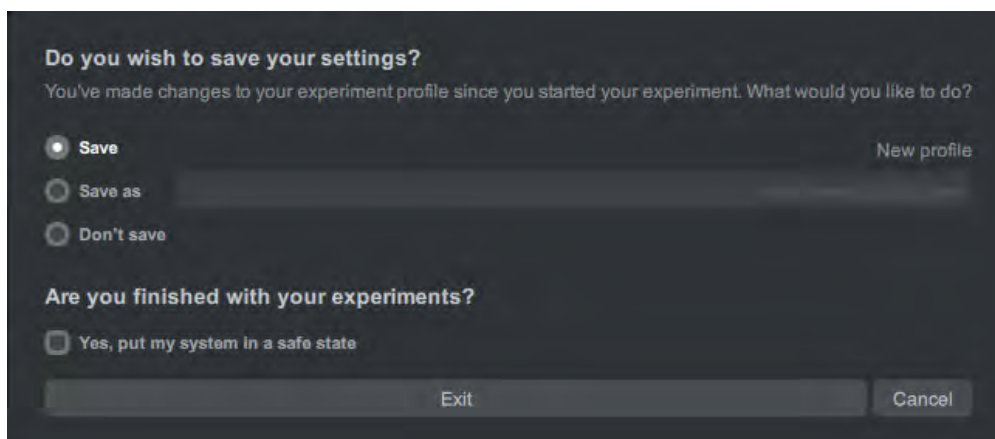

Figure 11.18.1: Figure: Shutdown confirmation window.
9. Quit Bluelake by pressing the **X** button in the upper right corner of the window and select **Yes, put my system in a safe state** (see Figure 11.18.1).